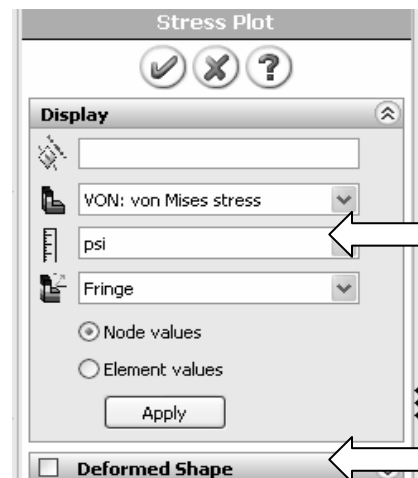

Figure 19 – **Stress Plot** property manager.
- Right-click **Stress1 (-vonMises-)** and from the pull-down menu, select **Edit Definition...** The **Stress Plot** property manager, shown in Fig. 19, opens.